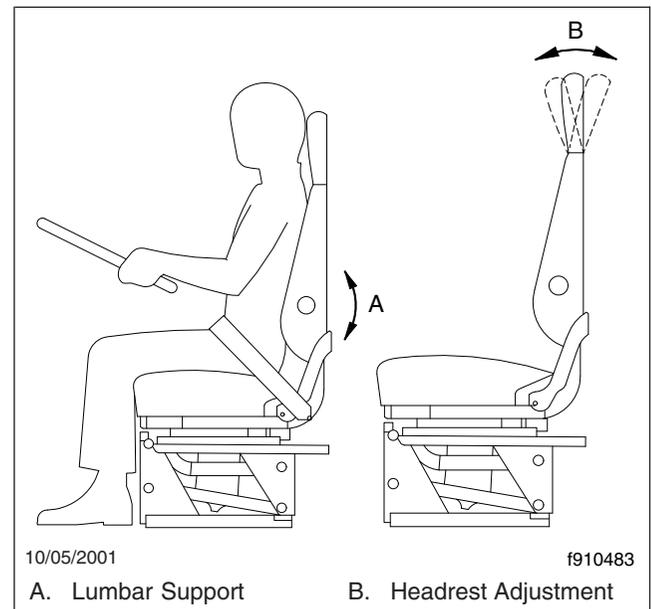

Fig. 3.5, Lumbar Support and Headrest Adjustment
3. Lumbar Support: Lumbar support changes the shape of the seat back to give more or less support to the occupant's lumbar (lower back) area. This adjustment is either mechanical or air controlled, depending on make and model of the seat. See Fig. 3.5.
4. Headrest: When this adjustment is made, the upper part of the backrest (back cushion) changes angle to provide head and upper back support. See Fig. 3.5.